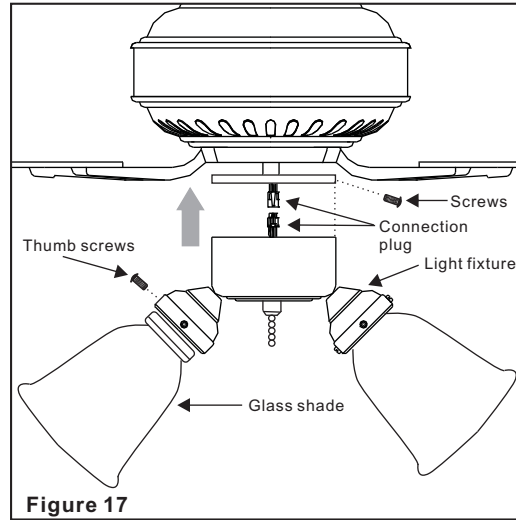

Figure 17
1. While holding the light fixture under your fan, snap together the wire connection plug. (Figure 17)
2. Remove screws from mounting ring under the fan motor. Raise the light fixture body to the mounting ring until the holes in fixture and ring line up. Reinsert screws to secure in place. (Figure 17)
3. Mount the glass shades to the light fixture by unscrewing partway the thumbscrews on the glass holders, inserting the glass, then gently tightening the thumbscrews by hand evenly to the glass. **DO NOT OVER TIGHTEN.** (Figure 17)